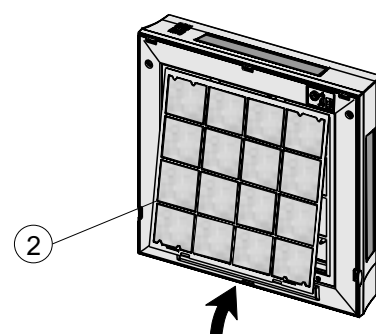

Figure 5
- Replace and secure the main filter (2) in place (see figure 5).